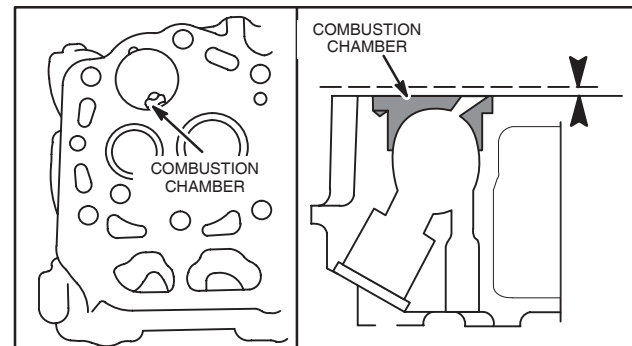

Fig. 14 – Check Combustion Chamber
1. Check combustion chamber, Fig. 14.